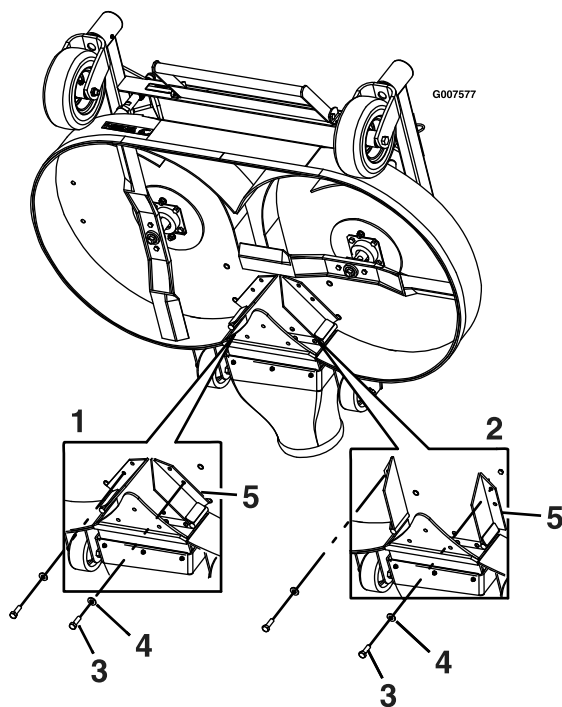

Figure 23
7. Remove the bolt and washer at the front of each FRS baffle (Figure 23).